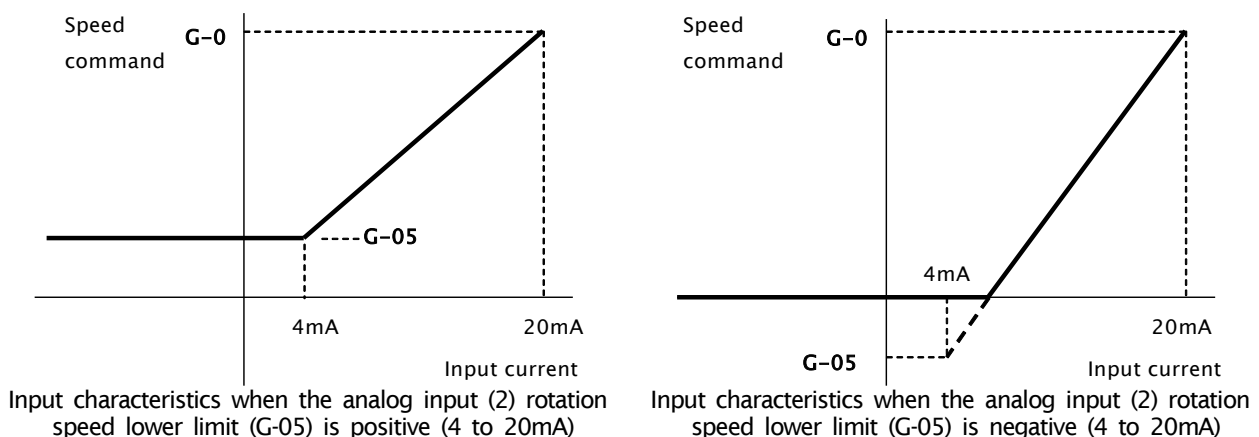

Figure 5.4 Speed command characteristics with current input of 4 to 20mA
The rotation speed command value is set as the analog input (2) rotation speed lower limit (G-05) when the input is 4mA. When the input is 20mA, it is set as the analog input (2) rotation speed upper limit (G-04). However, this will be set to "0" if the analog input (2) rotation speed lower limit (G-05) has a negative value. (Figure 5.4) If the minimum rotation speed (A-01) is other than "0", the rotation speed command absolute value is controlled to prevent falling below the minimum speed. As a speed command, this only allows forward operation. For reverse operation, a reverse operation command should be used.